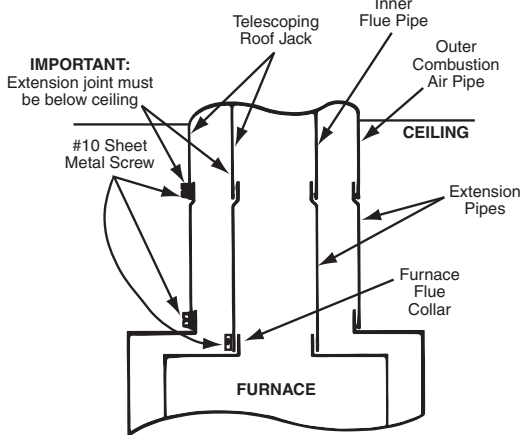

Figure 1. Extension Kit Installed
NOTE: Small end of extension pipe (end with bead) must be installed pointing upwards for attachment to the inner flue pipe. See Figure 1.
NOTE: Small end of extension pipe (end with bead) must be installed pointing upwards for attachment to the roof jack outer combustion air pipe. See Figure 1.
7. Secure outer combustion air pipe using #10 sheet metal screw, to extension pipe. See Figure 1.
NOTE: Extension joint of the interior roof jack extension must be below ceiling. See Figure 1.